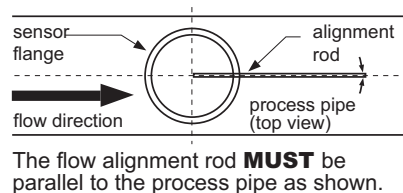
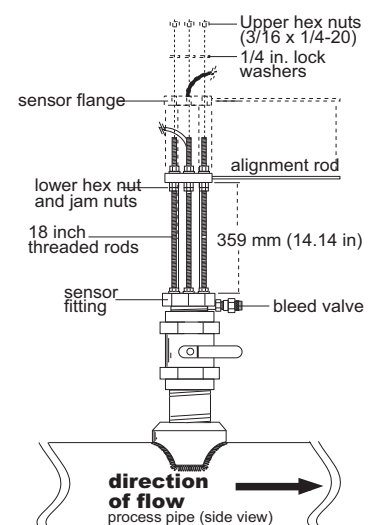

Fig. 10
Fig. 11
- Wipe the sensor body with a dry, clean cloth. Orient the alignment hole on the sensor flange to point **downstream**. Place the slotted flange over the threaded rods. Lower the sensor into the fitting until the sensor flange rests on the lower hex and jam nuts. (Fig. 10 & Fig. 11)
- Secure the sensor with lock washers and upper hex nuts on the top of the flange. Before tightening, align the sensor flange so that the alignment rod is parallel and level with the process pipe. (Fig. 10 & Fig. 11)